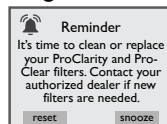

Figure 15.0d
23. ProClarity/ProClear Filter Reminder: This message will appear when the filter reminder time has expired (Figure 15.0d). Remove the ProClarity/Proclear filters and filter/debris bag for cleaning or replacement.